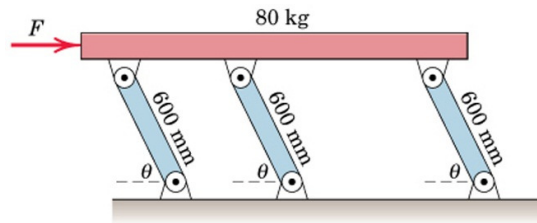

Fig. 7
- Q. No. 7 Specify the horizontal force F necessary to maintain equilibrium of the 80-kg platform (Fig. 7) in terms of the angle θ made by the supporting links with the horizontal. Each of the three uniform links has a mass of 10 kg. (Compare the solution by virtual work with a solution by force and moment equilibrium.)